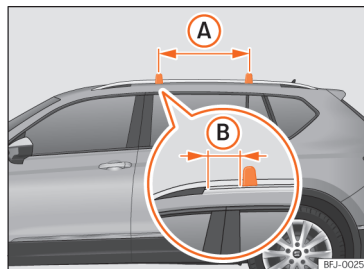

Fig. 169 Attachment points for the roof railings for the roof carrier system.
»» Fig. 169 (A) should be between 75 and 90 cm and the distance between the crossbars and the brackets of the roof railings (B) must be 15 cm.